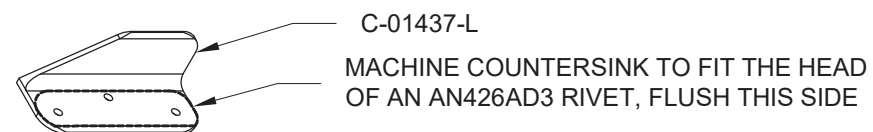

FIGURE 3: MACHINE COUNTERSINK CANOPY HANDLE
Step 3: Machine countersink the holes in the C-01437-L Canopy Handle as shown in Figure 3.